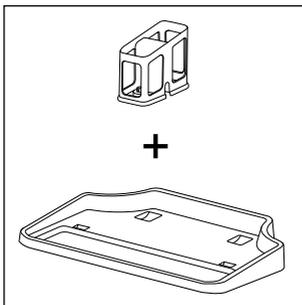
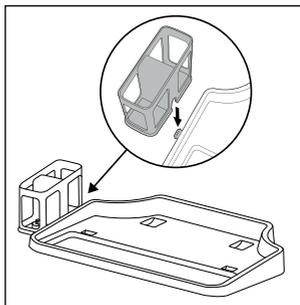

Fig. 4
Fig. 5
- ◆ The parking and cleaning station consists of a storage tray ❶❺ and a rotary brush holder ❶❻ (see fig. 4). To assemble the parking and cleaning station, slide the rotary brush holder ❶❻ sideways into the opening on the storage tray ❶❺. Slide the rotary brush holder ❶❻ downwards into the opening until it sits firmly in place on the side of the storage tray ❶❺ (see fig. 5).